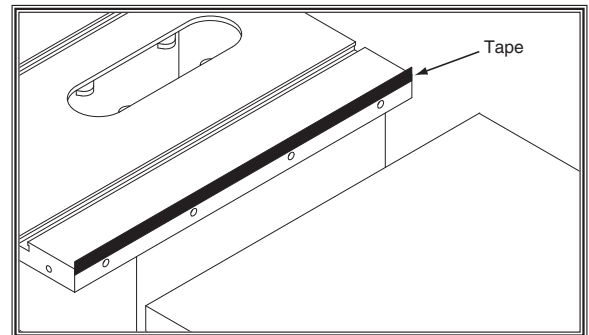

Figure 10. Positioning the tape to shim the router table down.
- If the outside edge of the router table tilts up, place strips of masking tape along the *top* edge of the saw table to shim the router table down and even with the saw table from side to side (see **Figure 10**).